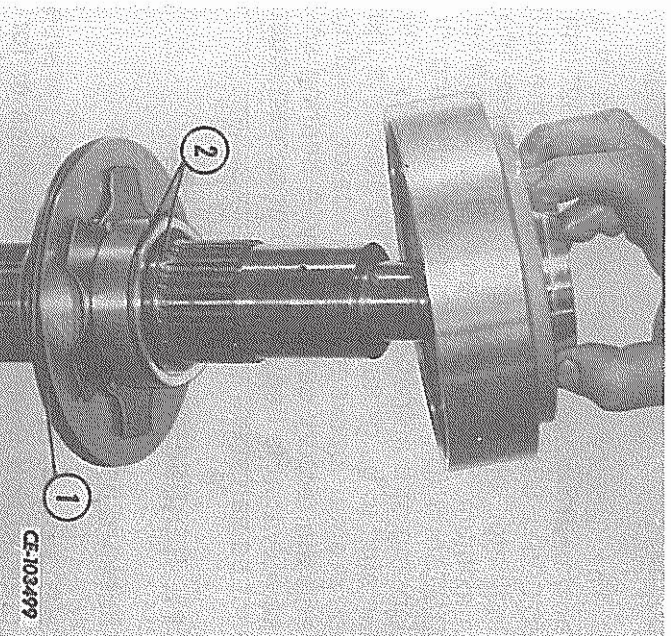

FIG. 63 — Installing the Piston Housing
9. Apply a low melting, non-fibrous grease to the new separator plate "O" ring and position the "O" ring (1, Fig. 63) on the separator plate. Do not mistake the loose appearance of the "O" ring as being stretch or deformed.
11. Place the shaft on end so the woodruff key slot in the shaft is down. Install the piston housing slowly onto the separator plate until it is on the sealing rings (1 and 2, Fig. 63).
NOTE: Do not force the piston housing into position. Allow the chamber of the housing to compress the seal rings and move the housing slowly over the separator plate "O" ring. Rough handling of the housing can result in a broken seal ring (2, Fig. 63) or cut "O" ring (1).